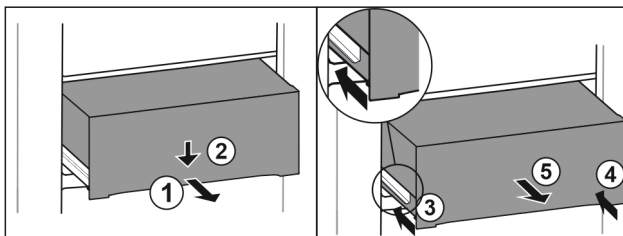

Fig. 100
- Pull out drawer half-way. Fig. 100 (1)
- Push the drawer down at the front. Fig. 100 (2)
- Push the left rail in by about 2 cm. Fig. 100 (3)
- Push the right rail in by about 2 cm. Fig. 100 (4)
- Remove drawer to the front. Fig. 100 (5)